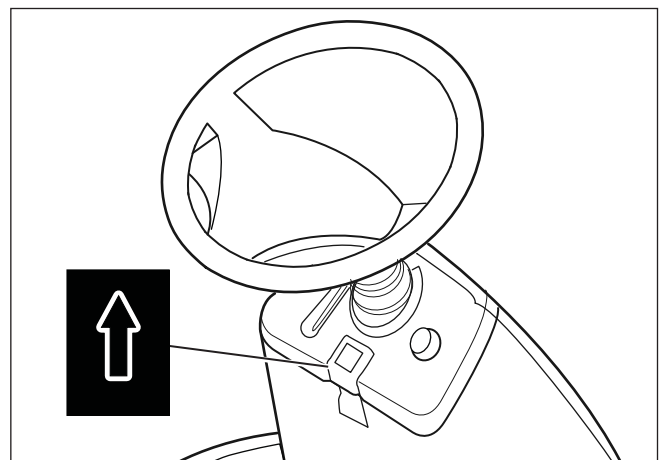

Figure 15
2. Pull up the parking brake knob (**Figure 15**).
4. Set the parking brake (see Figure 15).